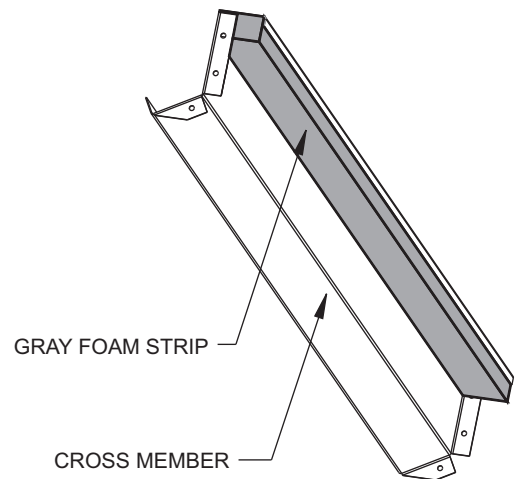

Fig. 20 — Adding Foam Strip to Cross Member
2. Add gray foam strip (provided) to cross members on bottom tray. See Fig. 20.